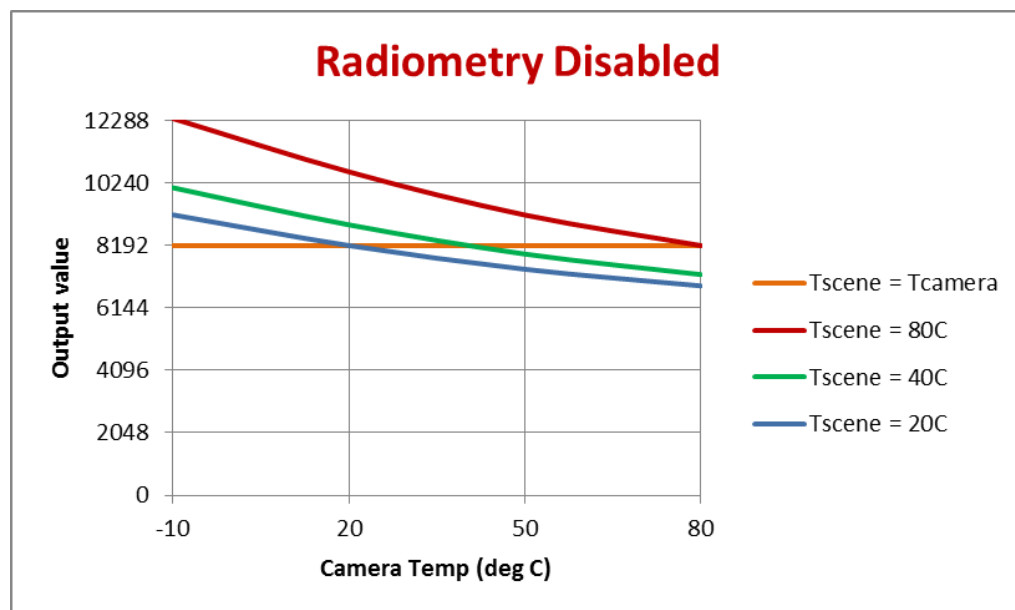

Figure 5: Hypothetical illustration of camera output vs. camera temperature in radiometry-disabled mode
A. The radiometric modes affect the transfer function between incident flux and 14-bit pixel output. With radiometry disabled, the output of the camera for a given scene varies over as a function of camera temperature. Furthermore, the responsivity (i.e., the change in output value for a change in input, $\delta_{out} / \delta_{in}$) varies as well, decreasing with increasing camera temperature. This condition is illustrated hypothetically in Figure 5. (Note that the figure is for illustration purposes and not perfectly representative of camera output.) With radiometry enabled, Lepton performs internal adjustments to the signal level such that in principle the output is independent of the camera's own temperature. The resulting output for three different scene